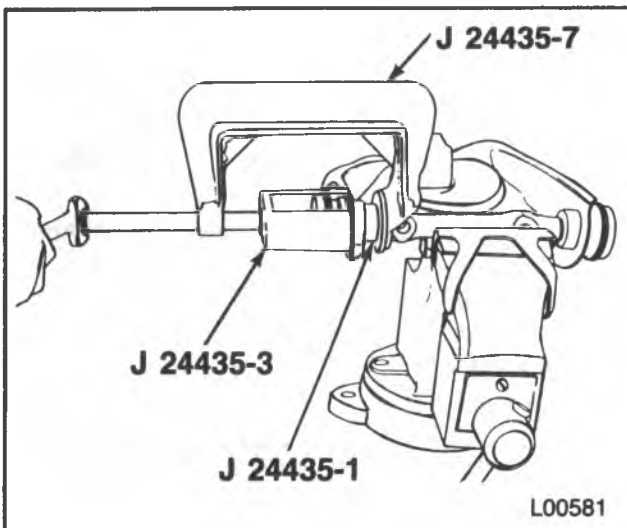

Figure 30 — Removing the Lower Control Arm Bushing (G20/2500 W/6.2L Diesel)
1. Lower control arm (36).
2. Bushings (46) and the pivot shaft (50) from the lower control arm (36).
- Use J 24435-1, J 24435-3 and J 24435-7 (figure 30).
- Tighten J 24435-7 to remove the bushing (46).
- Repeat the procedure on the remaining bushing (46) to remove it from the lower control arm (36).
1. Upper control arm (28).
2. Nuts (24), bushings (26) and the pivot shaft (29) from the upper control arm (28).
- Tighten J 24435-7 to remove the bushing (26).
- Pivot shaft (29) can be pulled free at this time.
- Repeat this procedure on the remaining bushing (26).